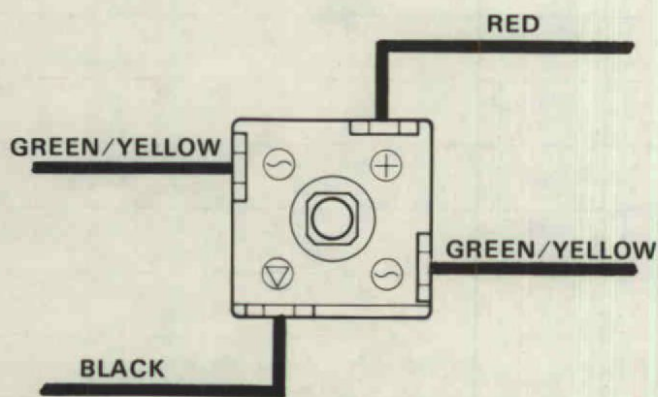

Figure 25. Installing Rectifier.
1. Connect lead wires to rectifier. Figure 25.